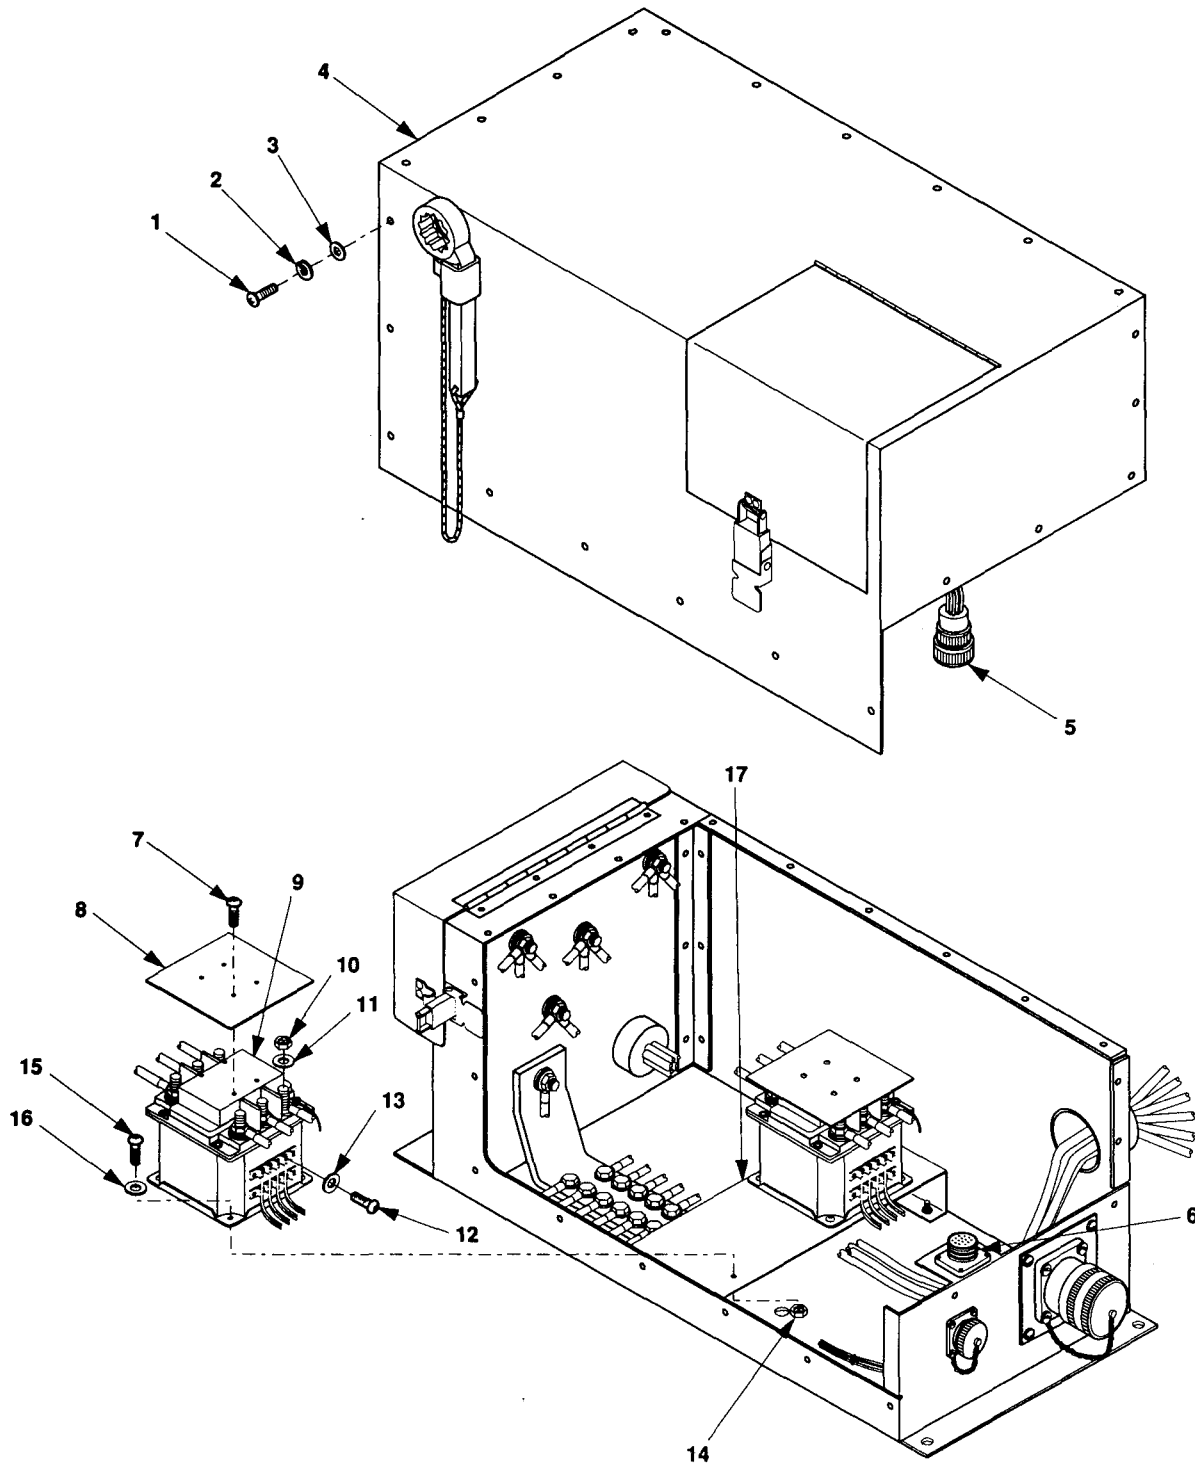

Figure 5-15. Contactor Maintenance.
1. Remove 21 screws (1, figure 5-15), lock washers (2), and flat washers (3) that secure the switch box cover (4) to the switch box assembly. Discard lock washers.